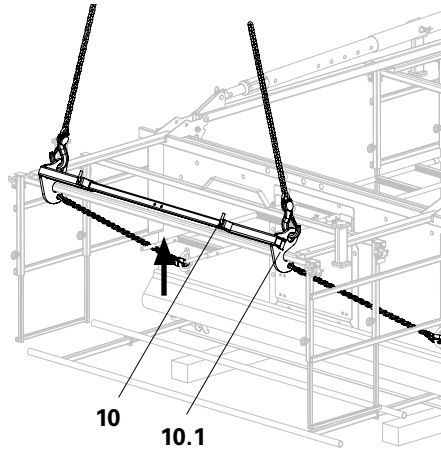

Fig. A11.03
With the Erection Device MXP, PERI MAXIMO and PERI TRIO system panel units with heights from $H = 5.40\text{ m} - 9.00\text{ m}$ can be erected. (Fig. A11.03)
1. Lift the Erection Device MXP (10) with the crane until the connecting lever (10.1) connects around the guardrail post. (Fig. A11.03)